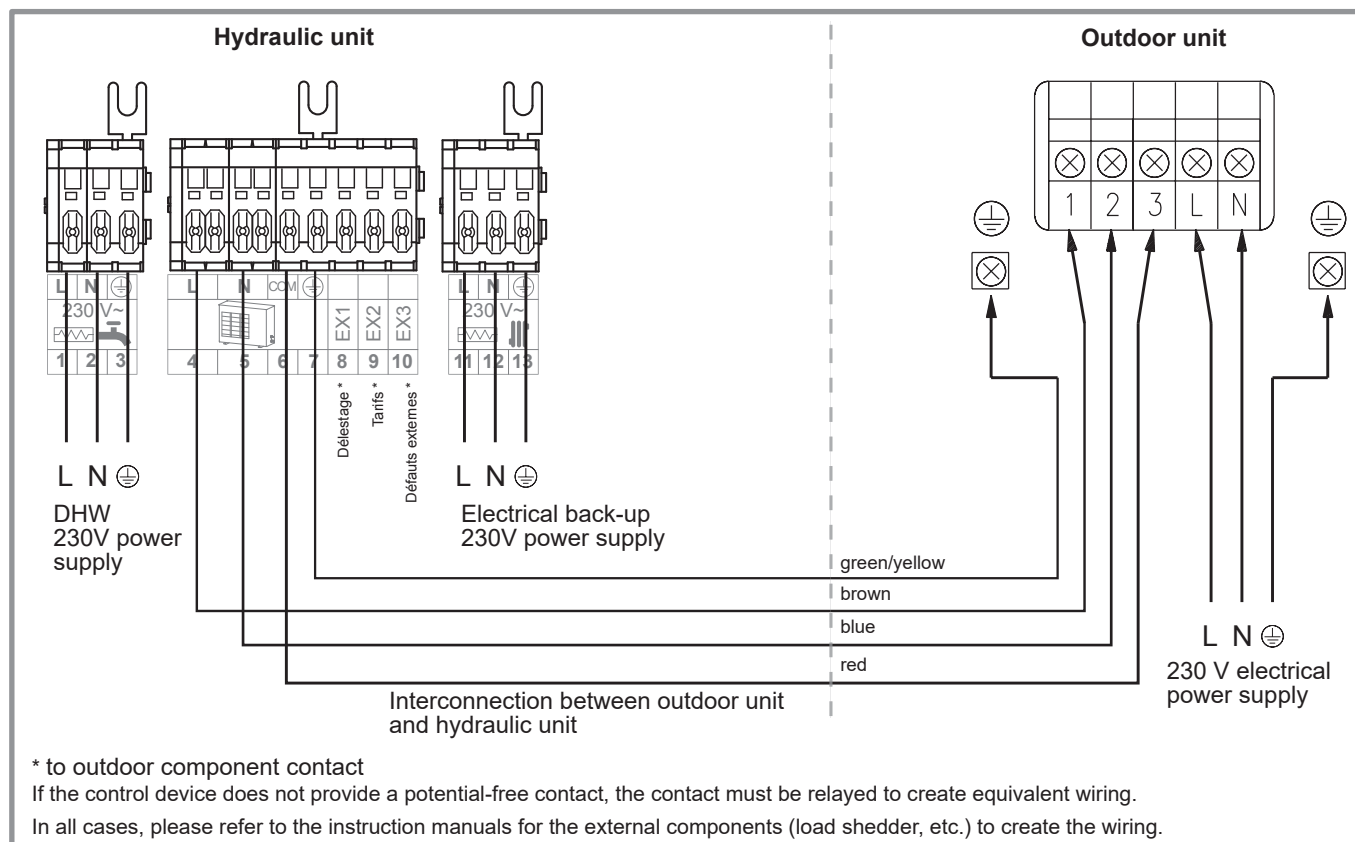

figure 31 - Connection to the terminal board (hydraulic unit)
- Make the connections according to the diagram (*figure 31*).
Comply with the correspondence between the markings on the hydraulic unit's terminals and those on the outdoor unit when connecting the interconnection cables (*figure 31*).
- Connect the power supply of the back-ups to the mains supply board (*figure 31*).